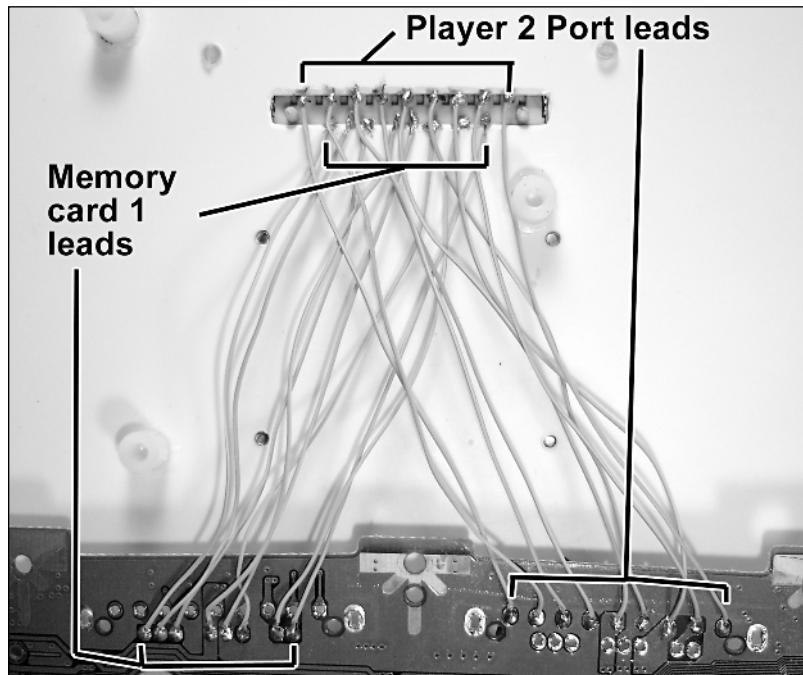

FIGURE 13-20: The memory card and Player 2 port connected to the PSOne motherboard.
3. Connect the nine controller leads to the nine Player 2 controller spots on the board. (For additional information on reconnecting the controller ports, see Chapter 12.) The results of both these steps should look as shown in Figure 13-20.